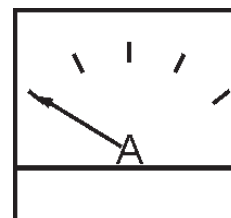

Figure 56. Ammeter (No Load)
13. The ammeter (Figure 56) will indicate zero amps with no load applied. When a load is applied, this meter will indicate the amount of current that the load is drawing from the generator.